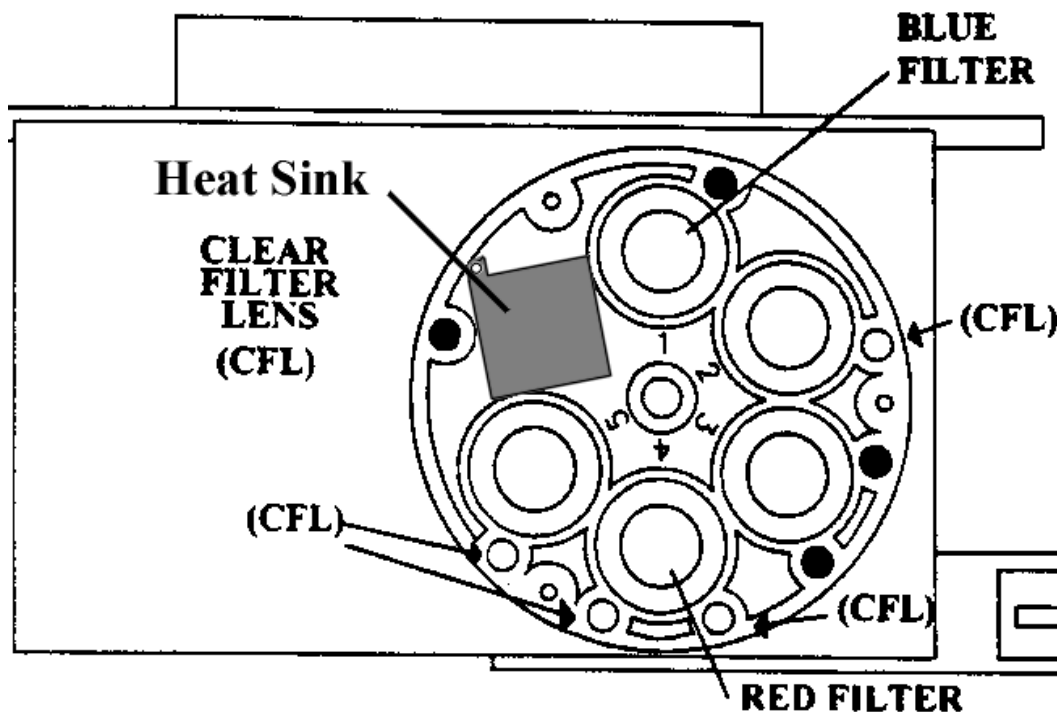

Figure 2. Optics Filter Wheel with Heat Sink Installed
- a) Refer to **Figure 2** below. The Heat sink should be installed at the “No Filter” position of the Filter Wheel.